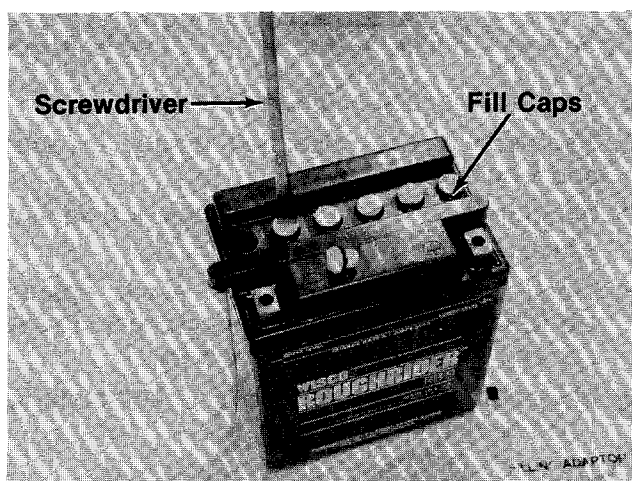

FIGURE 6.
4. Remove the six fill caps from the top of the battery. A screwdriver will make it easier. See figure 6.